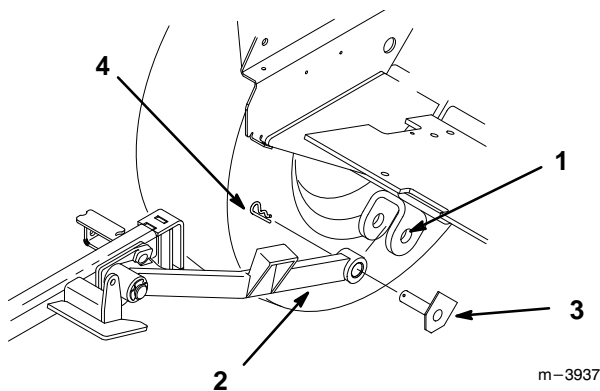

Figure 9
9. Remove hairpin cotter and pivot pin assemblies securing push arms to traction unit pivot brackets (Fig. 9).